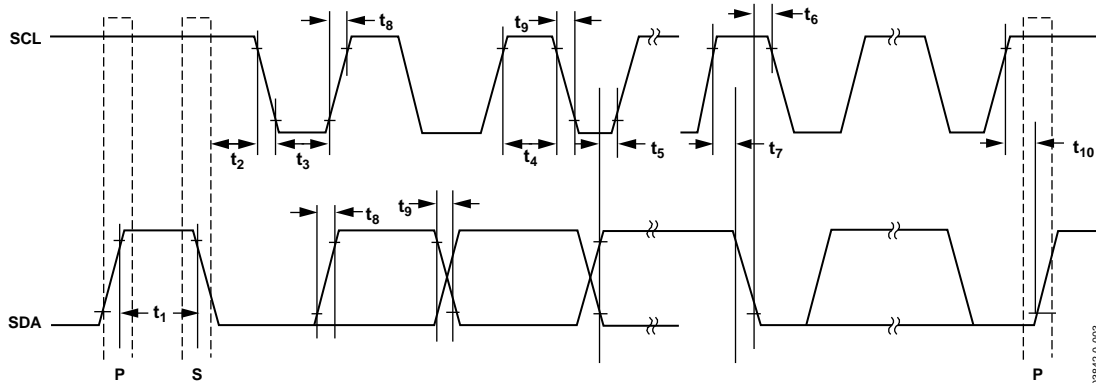

Figure 4. I²C Interface Timing Diagram
1. The master initiates data transfer by establishing a START condition, which is when a high-to-low transition on the SDA line occurs while SCL is high (see Figure 4). The following byte is the Slave Address Byte, which consists of the slave address followed by an $\overline{R/W}$ bit (this bit determines whether data is read from or written to the slave device).